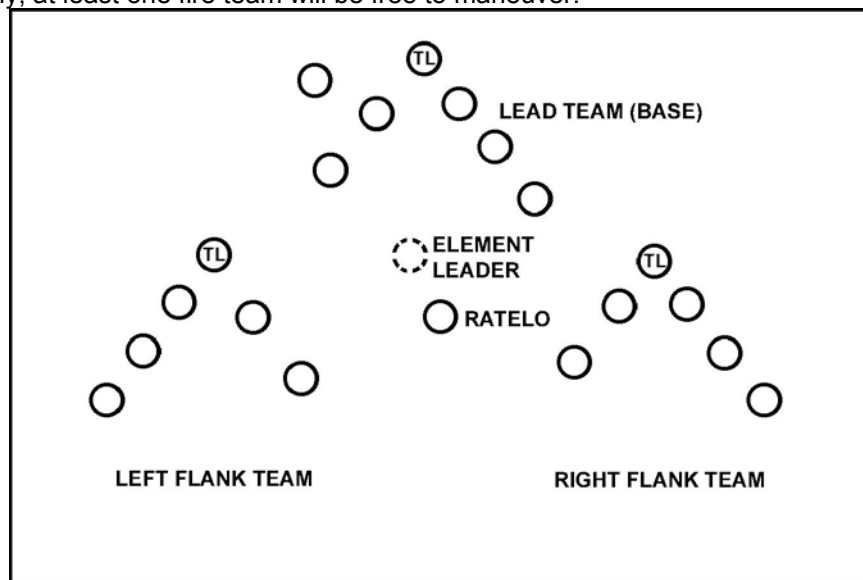

Figure 3. Dismount element wedge.
- c. Use the wedge formation when the situation is uncertain (Figure 3). This formation allows a large volume of fire to the front and to both flanks. It will usually ensure that, on contact with the enemy, at least one fire team will be free to maneuver.